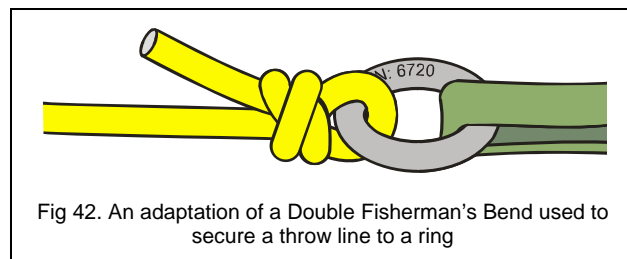

Fig 42. An adaptation of a Double Fisherman's Bend used to secure a throw line to a ring
- Attachment of a throw line to a line throwing device can be achieved by passing the line through the ring on the line throwing device then by tying an adaptation of a double fisherman's knot as shown in *figure 42*. Although this has changed the classification of the knot, the principle and function of the double overhand component remains the same.